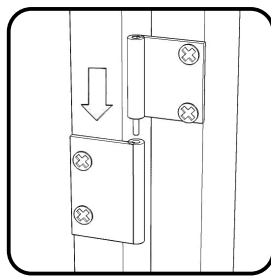

Figure 7
Attach Doors (F) and (G) to unit by sliding the doors lift hinges into side panels lift hinges. (See Figure 7)